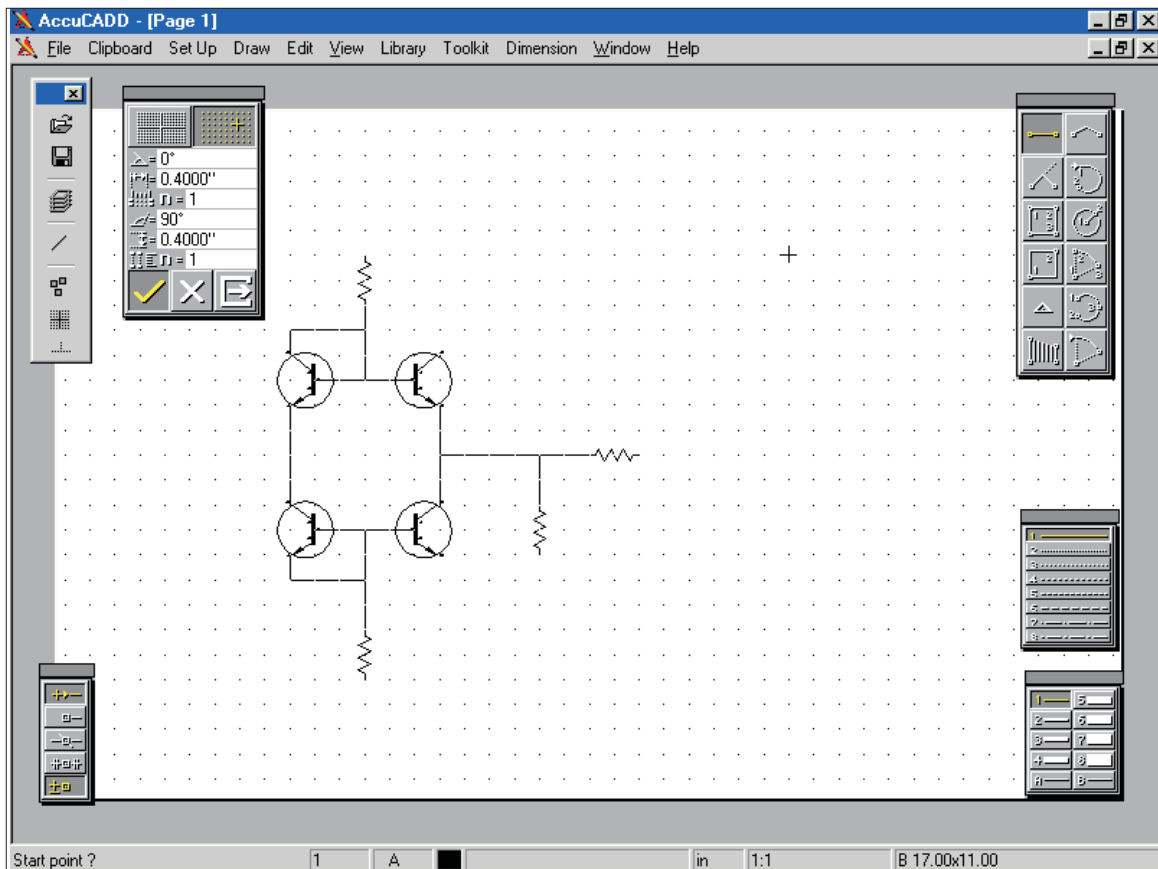

Figure 48: Making the connections
□ Re-select Drag Insert, then acquire the resistor from the library. Plant resistors as in Figure 48.